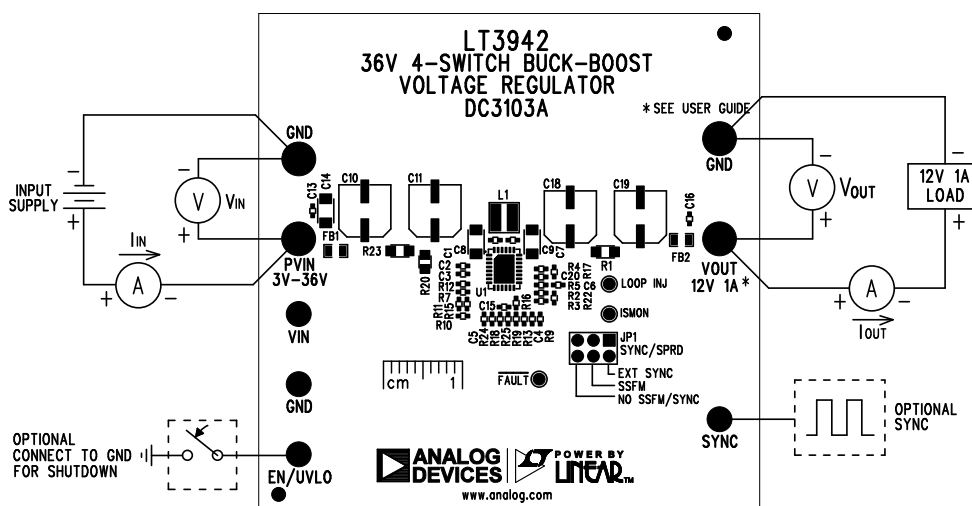

Figure 1. . Test Procedure Setup Drawing for DC3103A
1. With power off, connect a load capable of 12V 1A operation between the V_{OUT} and GND turrets on the PCB as shown in Figure 1.